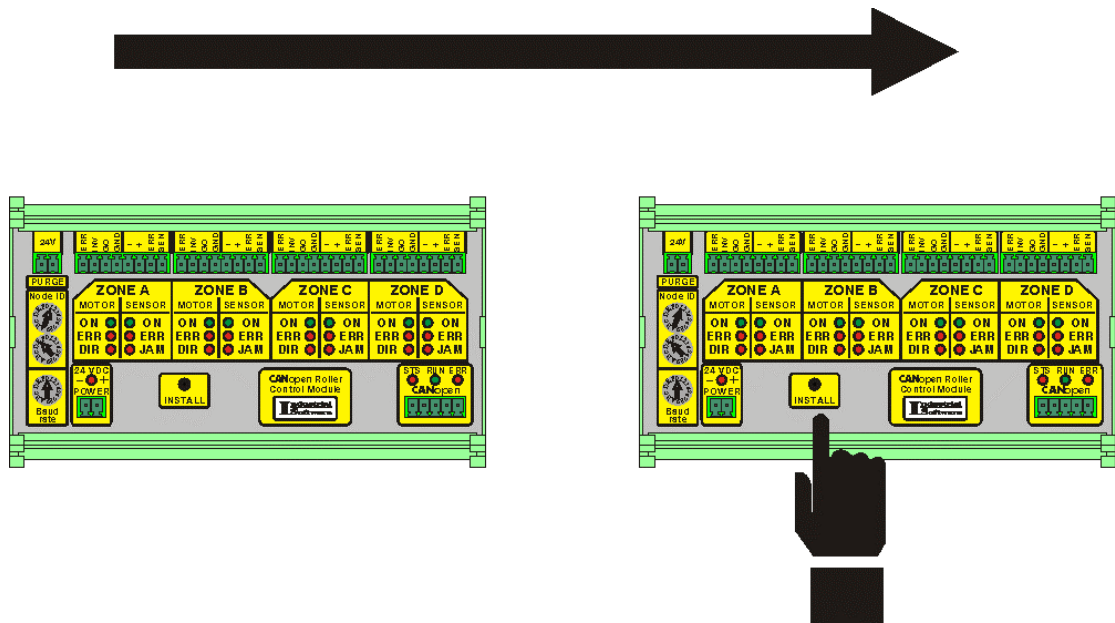

Fig. 5.20
- Then you may go downstream of the conveyor and press the **Install Button** of the next downstream module - Fig. 5.20.